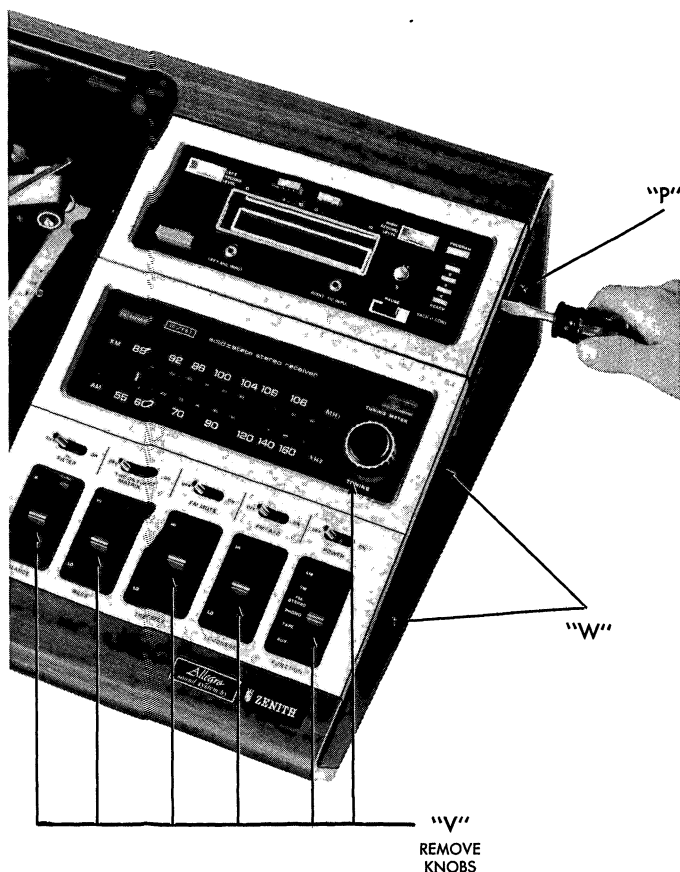

FIGURE 27 — MODELS G596W AND GR596W
5. The tape unit mounting screws are covered by a "snap off" escutcheon. A notch will be found on the center of the outer edge of the escutcheon ("P" in Figure 27). Insert a thin blade screwdriver into this notch between the escutcheon and the cabinet proper being careful not to mar the surface. Force the escutcheon upward, causing it to disen-
5. Remove six (6) knobs ("V" in Figure 27).
6. The tuner chassis mounting screws are covered by a "snap-off" escutcheon. Two notches will be found on the bottom of the outer edge of the escutcheon ("W" in Figure 27). Insert a thin blade screwdriver into these notches between the escutcheon and the cabinet proper being careful not to mar any surface. Force the escutcheon upward, causing it to disengage first two studs. Grasp the escutcheon along the top, lifting to disengage second two studs.